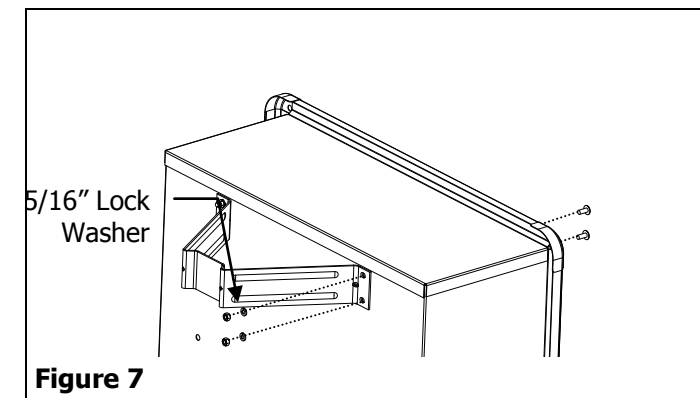

Figure 7
7. Attach Pedestal to bottom front of Body. Use 5/16" x 3/4" Truss Head Bolts from inside. On the bottom side, use 5/16" Lock Washers and secure with 5/16" Hex Head Nuts. See Figure 7.